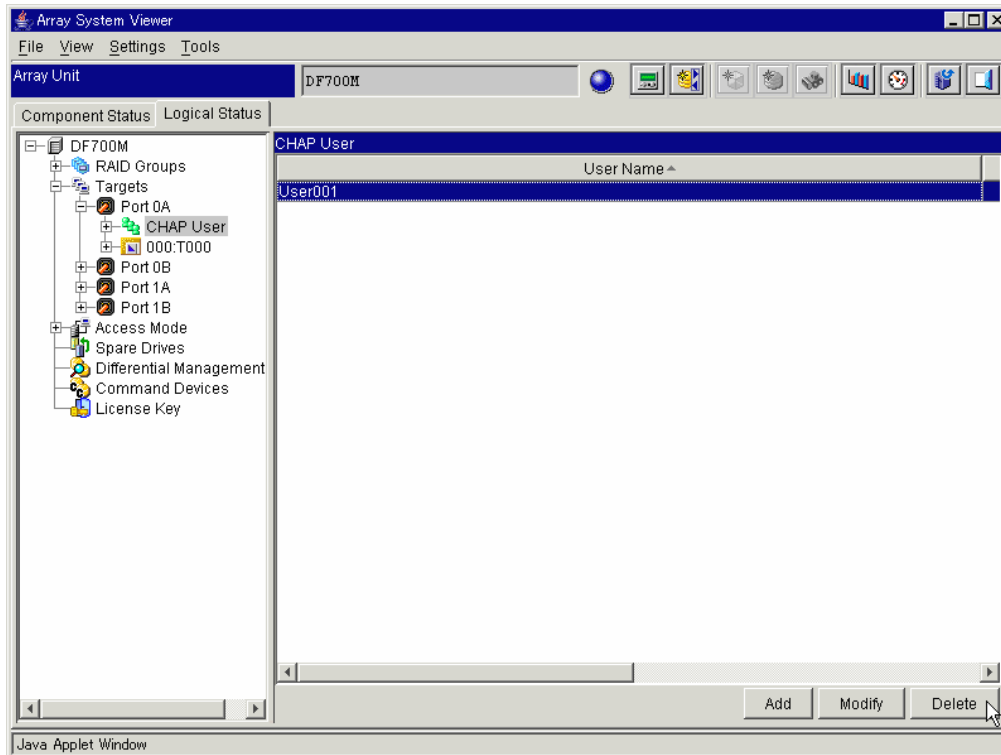

Figure 8.16 Array System Viewer - CHAP User Delete
1. Click the **Logical Status** tab. See Figure 8.16.